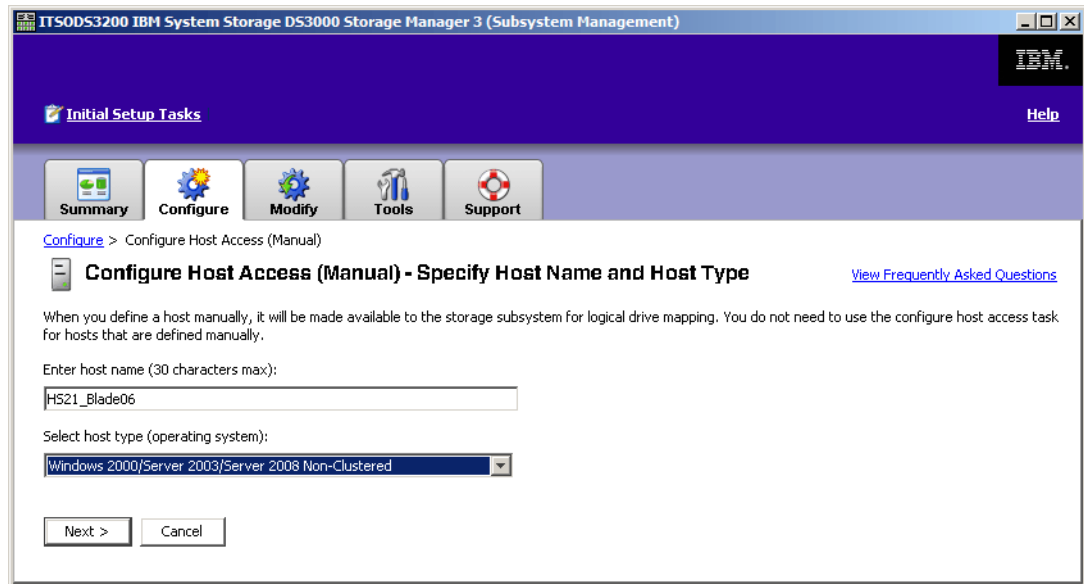

Figure 20-26 Host name and type selection
2. Specify the host name (in our example, HS21\_Blade06) and select the appropriate host type (in our example, Windows Server 2008 Non-Clustered), as shown in Figure 20-26 on page 465.